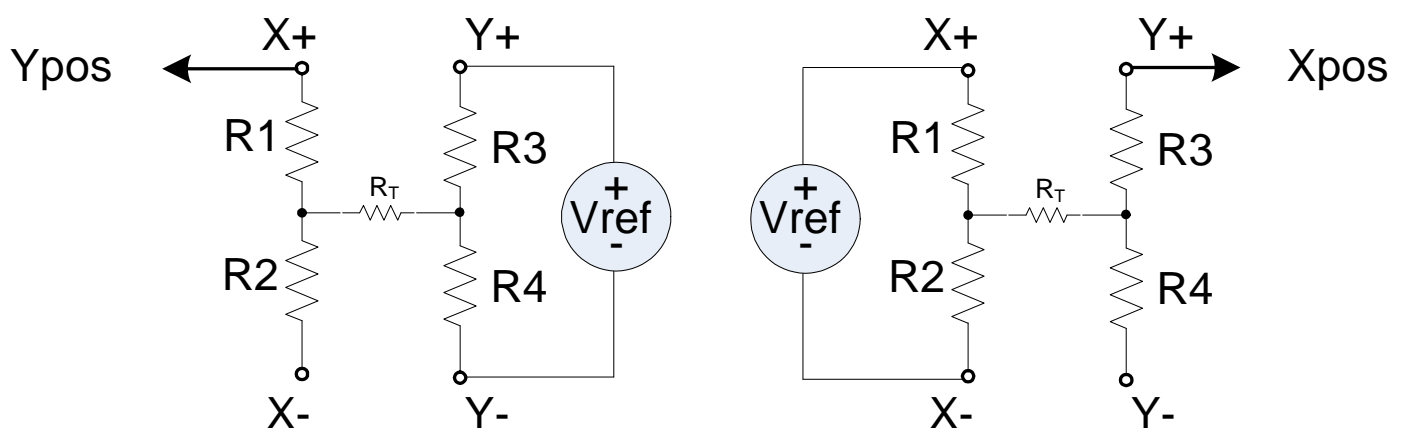

Figure 18. Ordinate (Y) and abscissa (X) coordinates measurement setup
The X coordinate is measured in a similar fashion with the bottom resistive sheet (X) biased to create a voltage divider by R1 and R2, while the voltage on the top sheet is measured through R3. Figure 18 shows the coordinates measurement setup. The resistance  $R_T$  is the resistance obtained when a pressure is applied on the screen.  $R_T$  is created by the contact area of the X and Y resistive sheet and varies with the applied pressure.